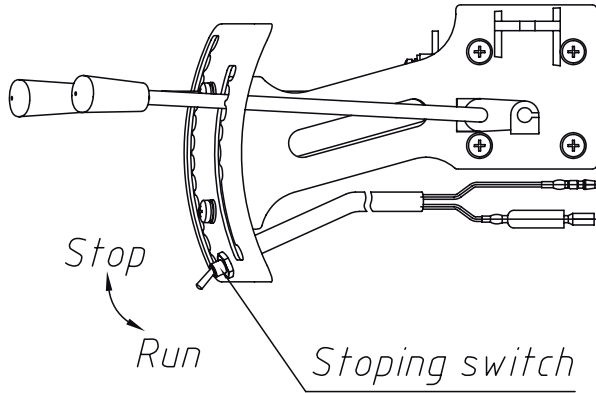

Figure 5
(1) Spraying over, turn off the chemical switch first then put fuel stopingswitch until the engine stops. (Fig.5)